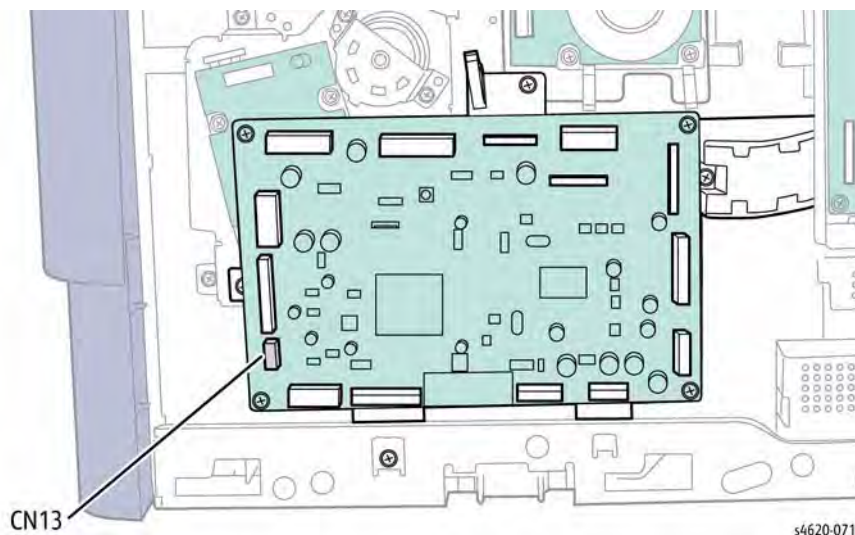

Figure 1 Disconnect the Tray 1 Feeder harness from the MCU Board
8. Disconnect CN13 from the MCU Board and feed the harness through the hole into the chassis, Figure 1.